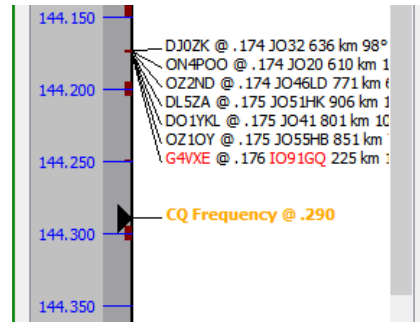

Figure 118 – Run frequency marker
- If operating in Run mode, the current Run frequency is marked on the display132 as ‘CQ Frequency’, with the fractional frequency appended (see Figure 118); the marker changes colour if the rig moves off the run frequency.